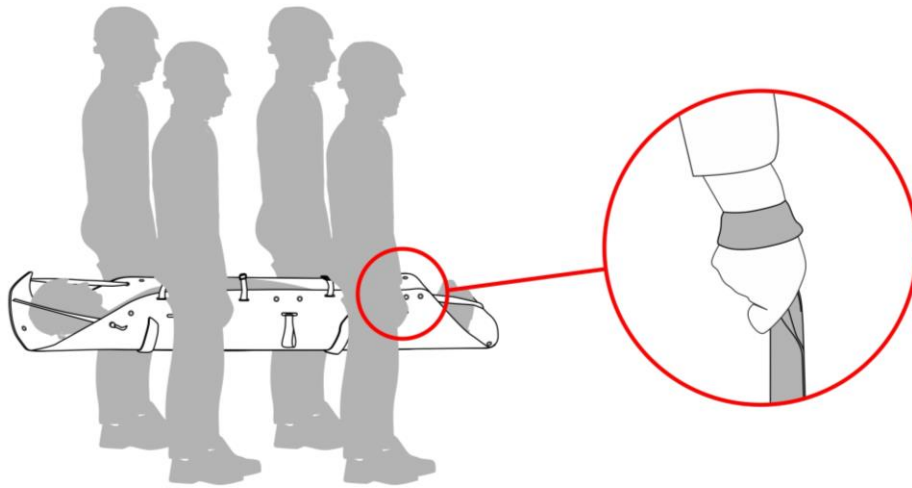

Fig. 3
- manual lifting and transport by means of the handles (F) - (fig. 3): 1:3 = user load: 150 kg